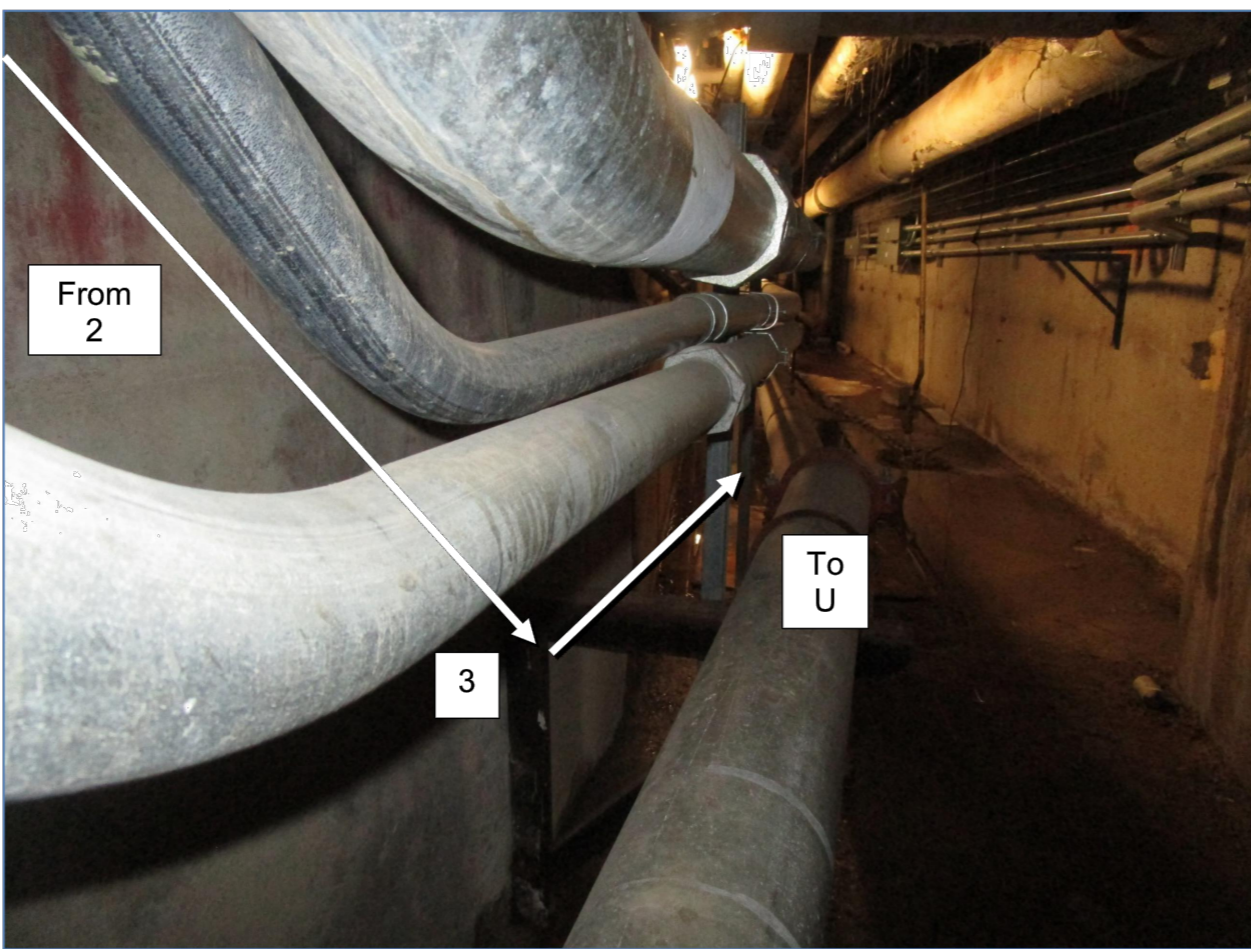

Figure 27 - Location T, transition along vertical channels
3. As the conduit descends into the lower tunnel, angle it away from the existing 50 mm conduit in order to allow mounting to the existing vertical channel shown in Figure 27. Mount the conduit at 610 mm (24 inches) above floor level.